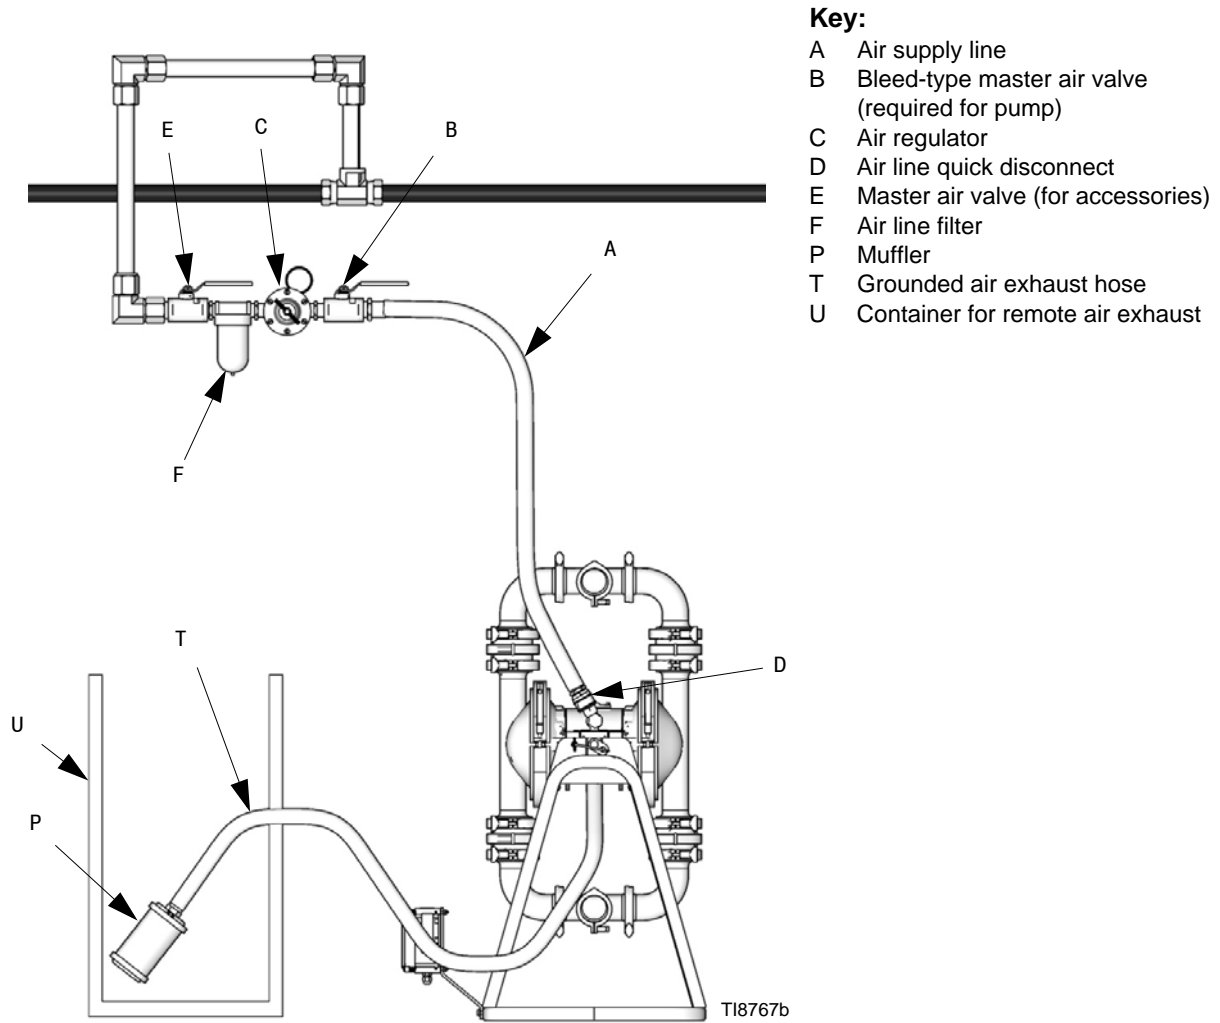

FIG. 5: Venting Exhaust Air
Diaphragm failure can cause the fluid being pumped to exhaust with the air. Place an appropriate container at the end of the air exhaust line to catch the fluid. See FIG. 5.
1. Remove the muffler (P) from the pump air exhaust port. See FIG. 5.
2. Install a grounded air exhaust hose (T) and connect the muffler (P) to the other end of the hose. The minimum size for the air exhaust hose is 3/4 in. (19 mm) ID. If a hose longer than 15 ft (4.57 m) is required, use a larger diameter hose. Avoid sharp bends or kinks in the hose.
3. Place a grounded container (U) at the end of the air exhaust line to catch fluid in case of a diaphragm rupture. See FIG. 5.